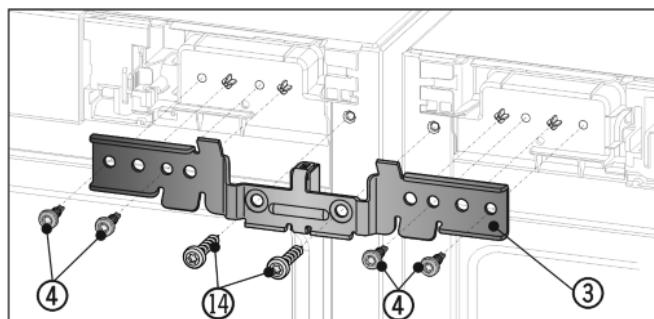

Fig. 7
- Slide the bracket Fig. 7 (3) onto the pins with the spacer between the appliances. Screw the brackets in loosely alternately right and left with four screws Fig. 7 (4) and the previously removed earthing screws Fig. 7 (14).